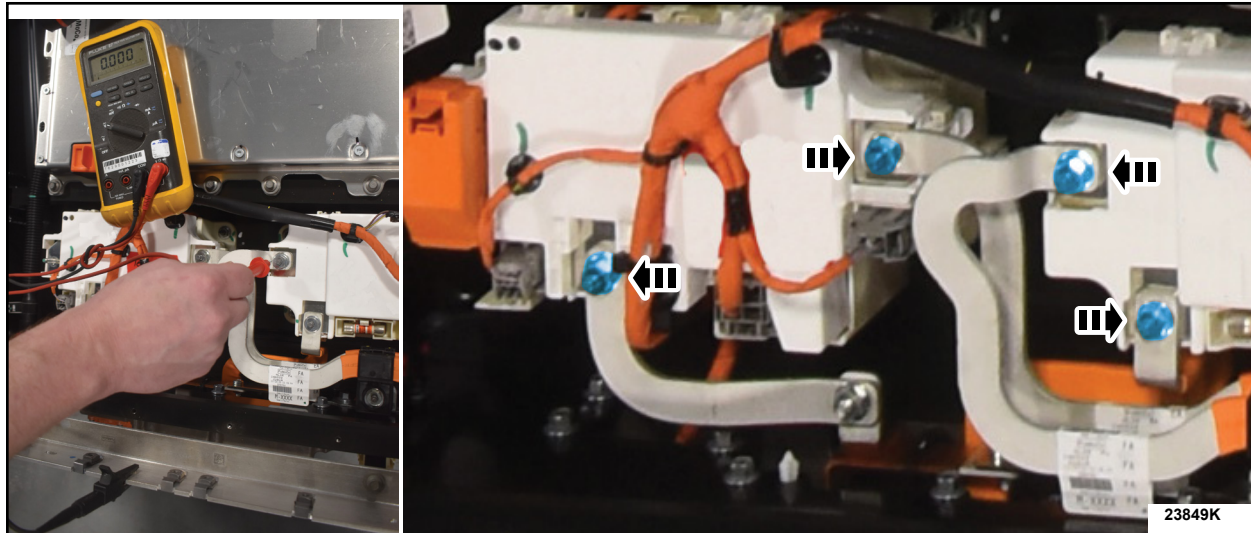

FIGURE 10
25. Using a voltage meter drain both High Voltage Battery Junction Boxes to zero. Place the negative probe on the battery case. Touching the terminals will drain the capacitors. See Figure 10.